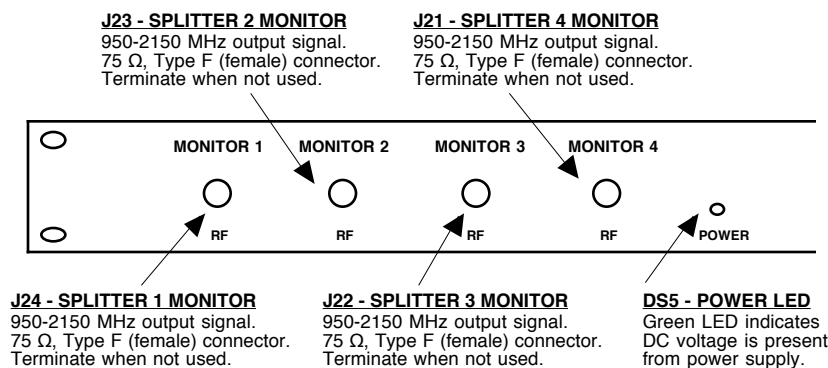

FIGURE 2.2 1584-45S Front Panel
Figure 2.2 shows the front panel monitors and indicators.
2. Connect 100-240 \pm 10% VAC, 47 - 63 Hz to AC on the back panel and observe that the AC POWER LED is lit on the front panel (Figure 2.2).
3. Monitor RF signals on the front panel monitors to insure proper signals (Figure 2.2).